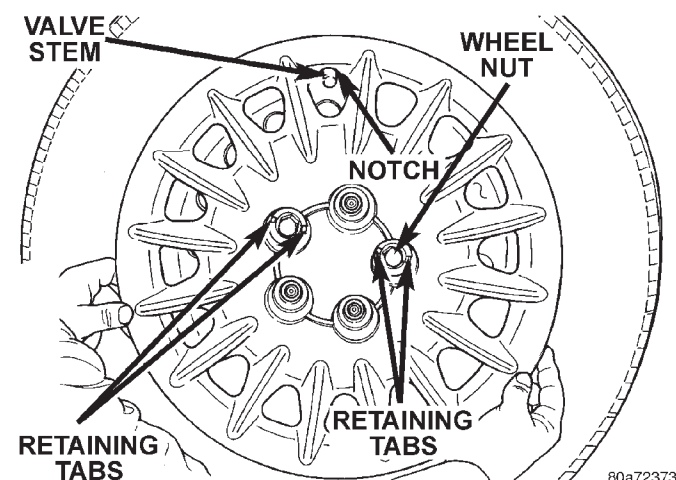

Fig. 18 Wheel Cover Installation Position
(2) Align the valve notch in the wheel cover with the valve stem on the wheel (Fig. 18). Align the two holes in the wheel cover having the retaining tabs, with the two installed wheel nuts (Fig. 18).